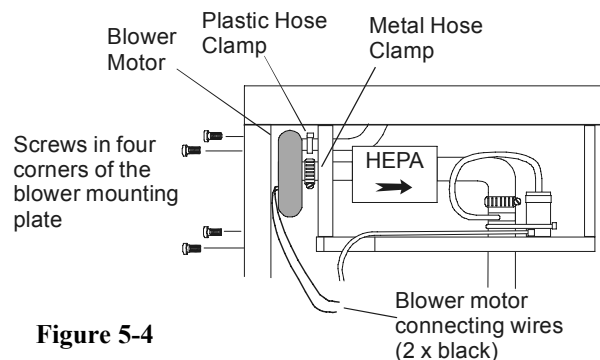

Figure 5-4
6. Loosen or remove the metal hose clamp securing the blower motor to the microbiological filter. (Refer to Figure 5-4).